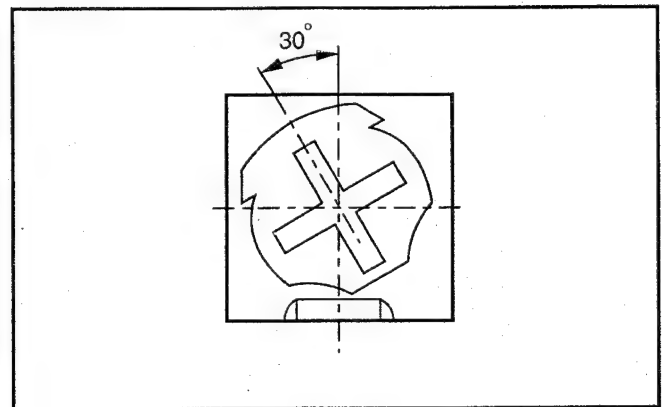

Fig. E10
- R365 (R-DRIVE VR) : Counterclockwise 30 degrees from center on Component Side, refer to Fig. E10.